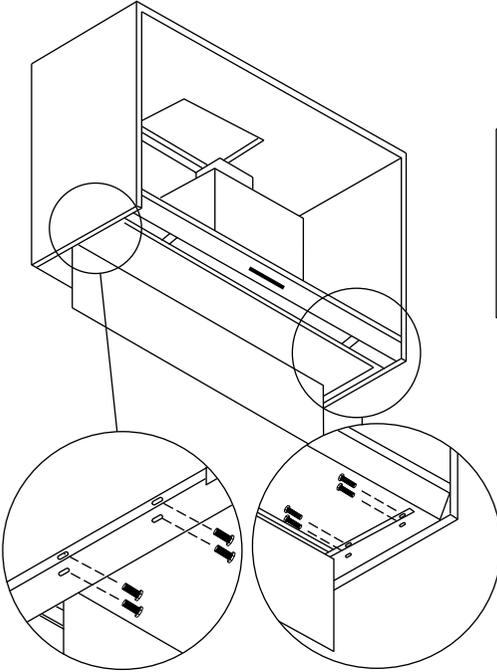

Fig 9
7. Screw the Donizetti to the sides of the cupboard (Fig 9).